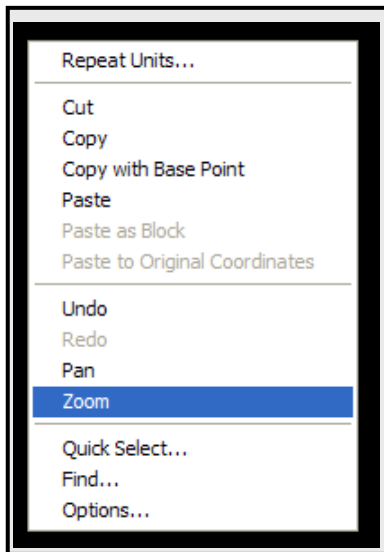

Fig.4: Right Click – Zoom
- Right click mouse, choose *Zoom* (Fig.4),